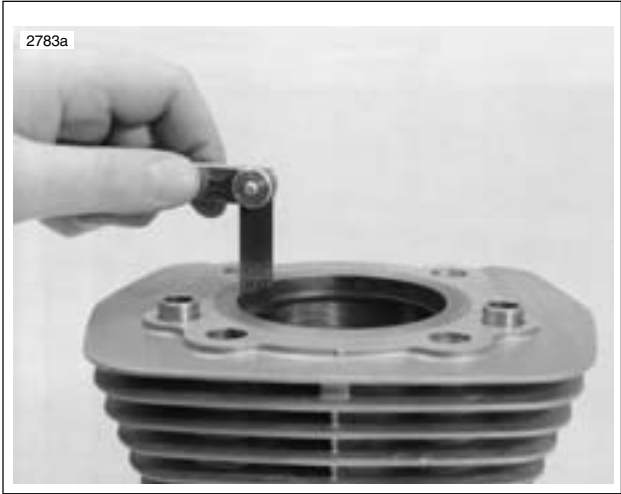

Figure 3-72. Measuring Ring End Gap
- 1. See 3.1 SPECIFICATIONS. See Figure 3-72. Place piston in cylinder about 1/2 in. (12.7 mm) from top. Set ring to be checked squarely against piston as shown. Check end gap with thickness gauge.